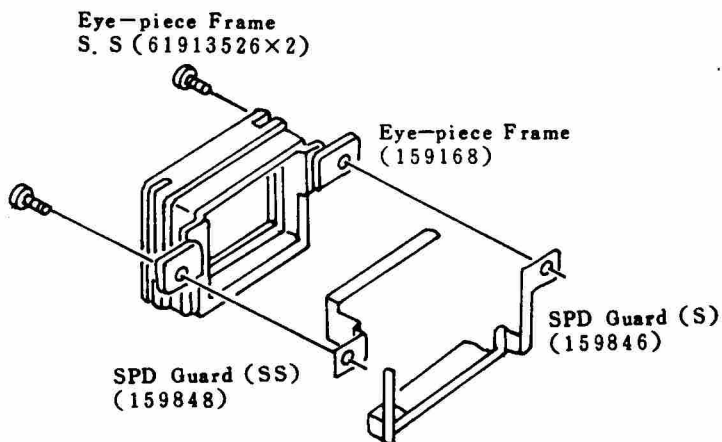

Fig 12
- f) Remove two Eye-piece Frame Set Screws (61913526×2), Eye-piece Frame (159168), SPD Guard (SS)(159848) and SPD Guard (S)(159846). (Fig 12)